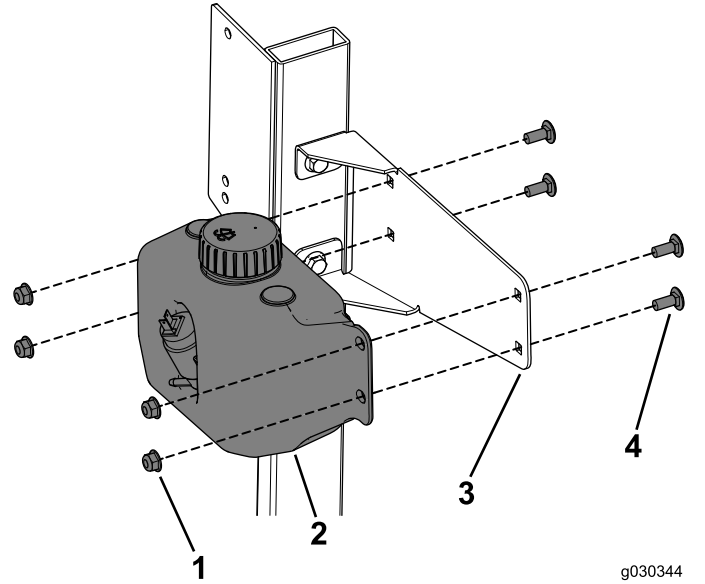

Figure 26
3. Secure the washer tank to the tank mount using the 4 carriage bolts (5/16 x 3/4 inch) and 4 flange nuts (Figure 26).